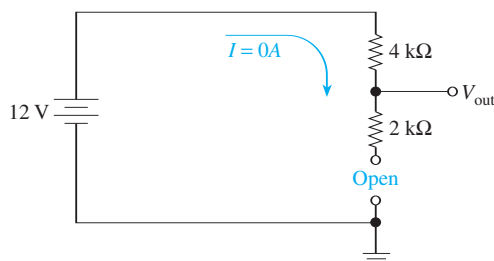

Figure 8 An open circuit below the measurement point allows the entire supply voltage to reach the output.
Calculate V_{out} in Figure 8.
10. If the $4\text{-k}\Omega$ resistor in Figure 8 is doubled, V_{out} will _____ (increase/decrease/remain the same)?